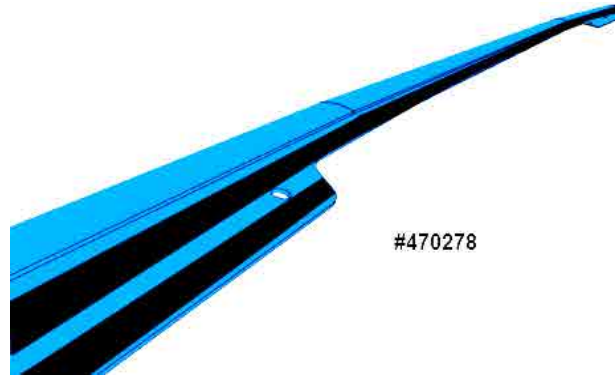

FIGURE 45
6. Apply two strips of double face self-adhesive tape, one to each side of the drilled holes (except in the middle where only one strip can be applied) along drip edge #470278 as shown on FIGURE 45.